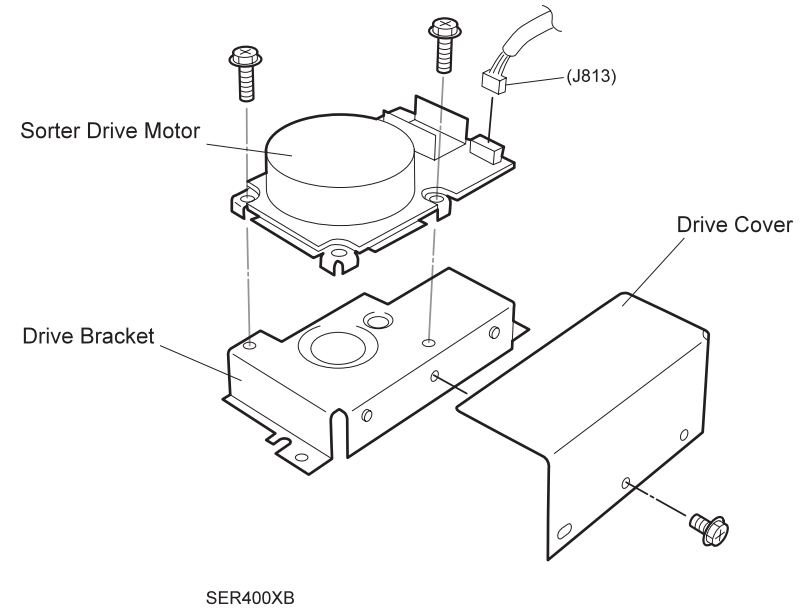

Figure 1-20. Sorter Drive Motor
1. Reinstall the Sorter Drive Motor to the Sorter Drive Bracket, and use two screws to secure the Motor to the Bracket (See Figure1-20).